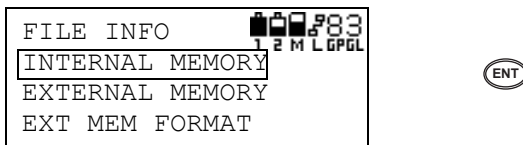

Figure 3-104. Select Internal Memory and Press Enter
- On the File Info screen, select either **INTERNAL MEMORY** or **EXTERNAL MEMORY** and press **ENT** (Figure 3-104).